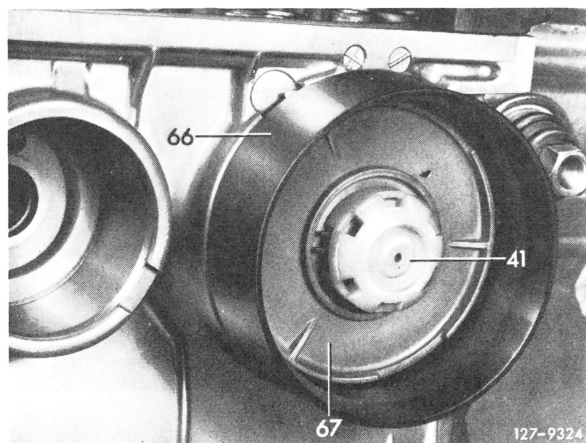

Fig. 7
**7** Mount insertion sleeve (66) and push out brake band piston B 2 (67) (Fig. 7).